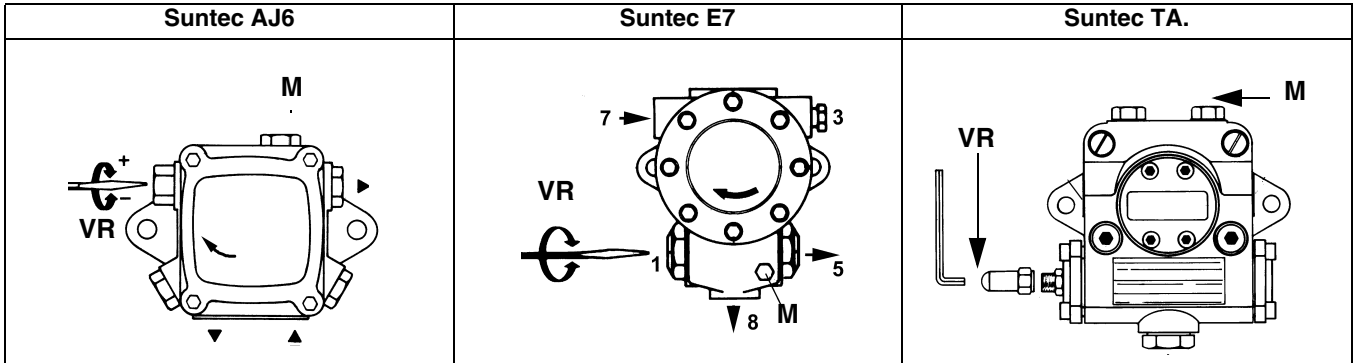

Fig. 37
- 3 bleed the air from the **M** pressure gauge port (Fig. 37) by loosening the cap without removing it, then release the contactor.